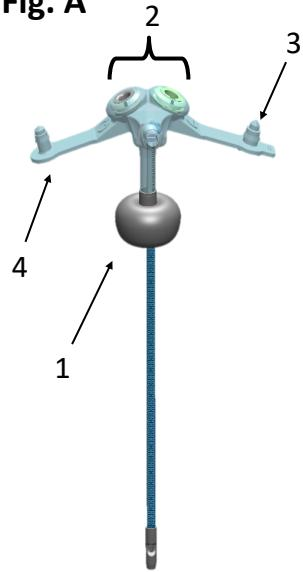

Fig. A-5
2. Inflate balloon through the balloon inflation port using a Luer slip syringe with distilled or sterile water to the recommended fill volume. (Fig A-5).